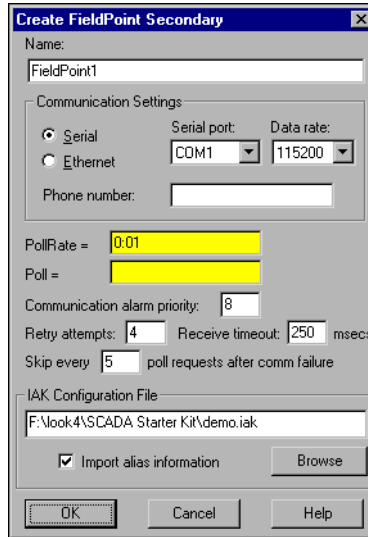

Figure 16. Create FieldPoint Secondary Dialog Box
- Fill out the **Create FieldPoint Secondary** dialog box as shown in Figure 16. The **IAK Configuration File** field directs the software to the location of the **.iak** file you created when you installed your FieldPoint hardware. Enter the path to the **demo.iak** file, or use the **Browse** button if you do not remember the complete path.